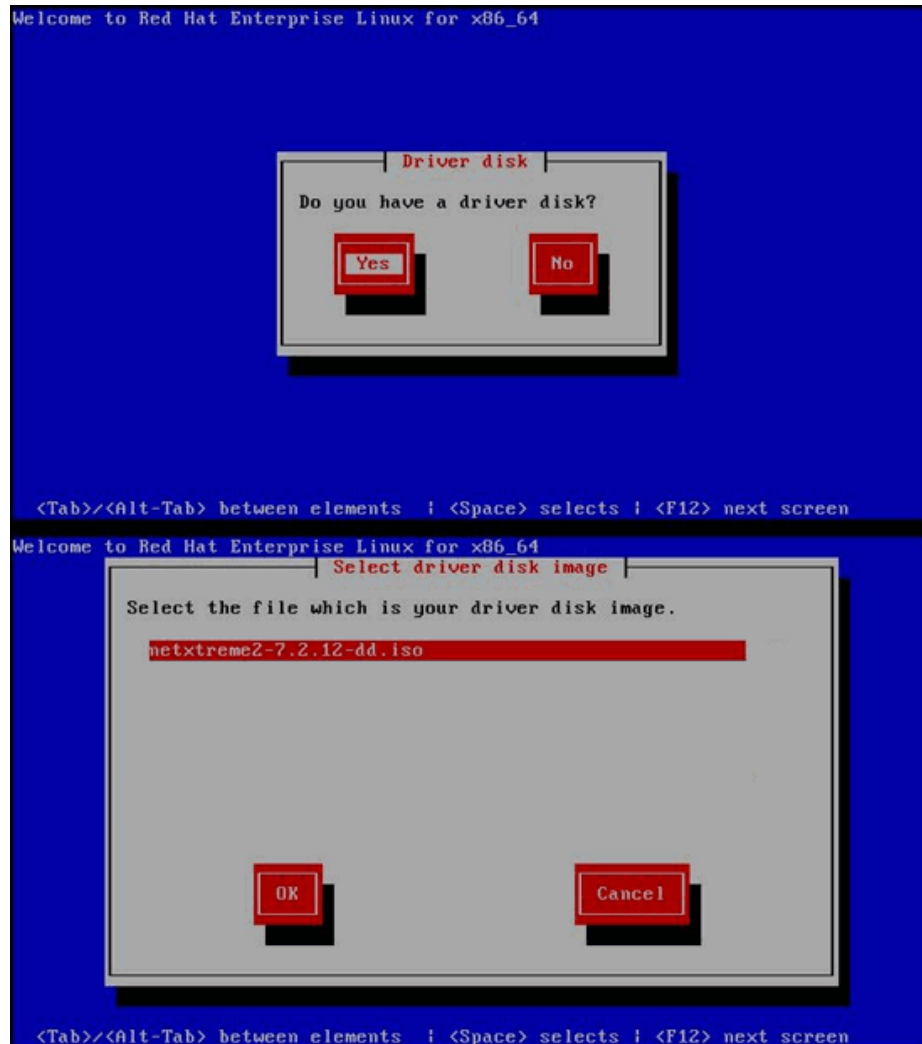

Figure 13-22. Selecting a Driver Disk
2. When prompted **Do you have a driver disk**, select **Yes** (Figure 13-22).